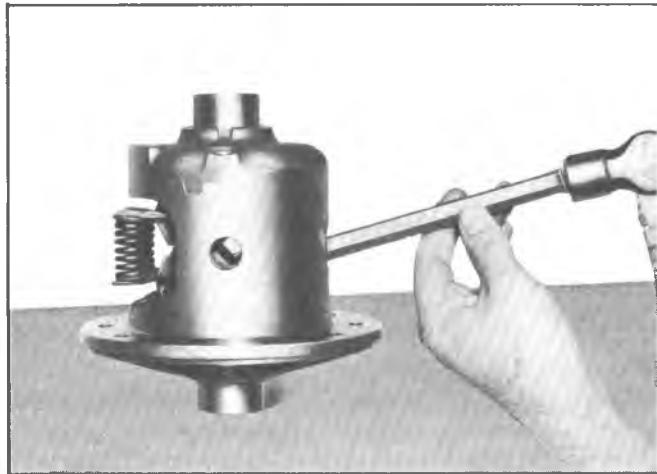
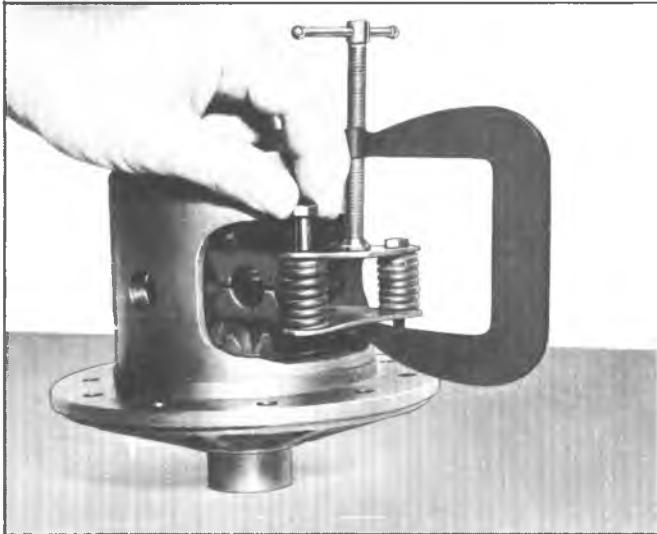

Fig. 3D—Removing Preload Spring Pack (Typical)
Fig. 4D—Installing Bolts to Retain Springs
2. For all models except Corvette, remove the preload spring retainer and springs by tapping on the spring retainer through the observation hole in the case. See Figure 3D. Drive the spring retainer from the case sufficiently to allow insertion of a 1/4 inch bolt in each of the two front springs. Secure each bolt with a nut as in Figure 4D.